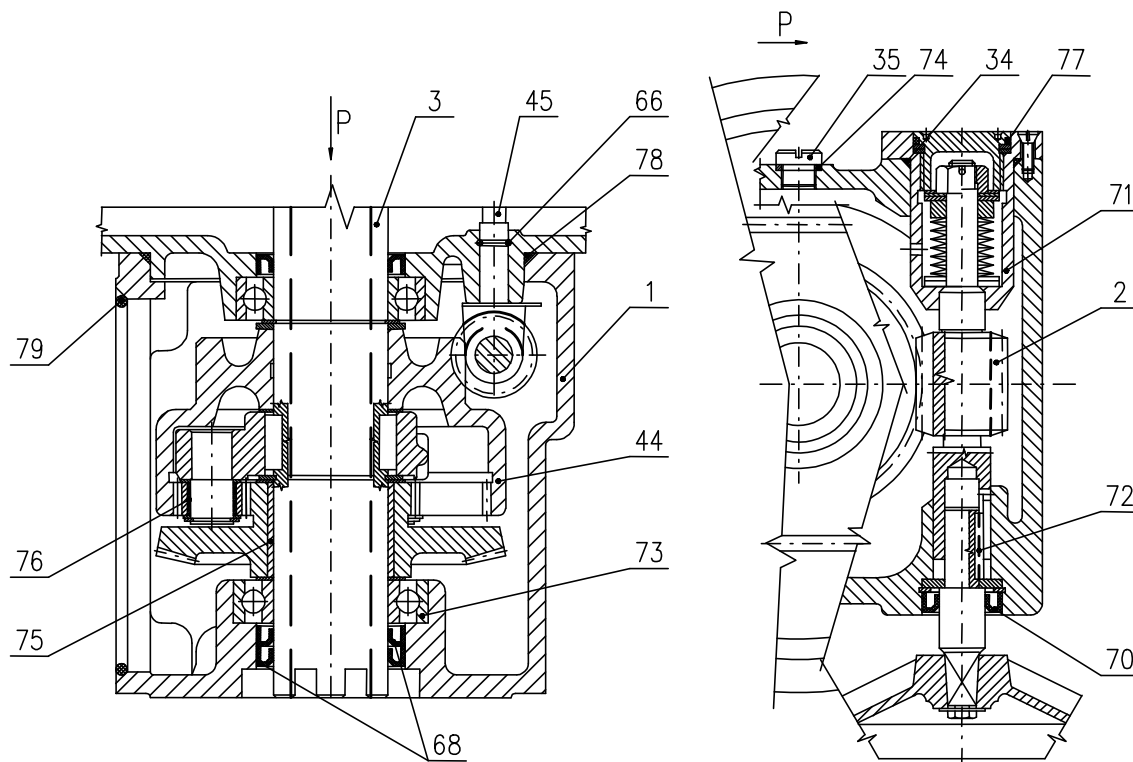

Fig.2
Module M3 – a gearbox with a manual control mechanism (Fig.2)
Cam unit is formed by two adjustable cams (19) and (20) (Fig.6) placed on the shaft of the torque control element (45) (Fig.2). The cams turned according to set switch-off force.
It changes rotary movement of the output shaft (3)(Fig.2) to linear movement of output spindle (83). The bronze joint nut with a trapezoidal thread is put into teeth of the output shaft (3). The frame (85) limits rotation of the output shaft (83) and function to indicate position. Pointers (86) "O" (open) or "Z" (closed) indicate position and they are fixed on actuators supporting columns (87).